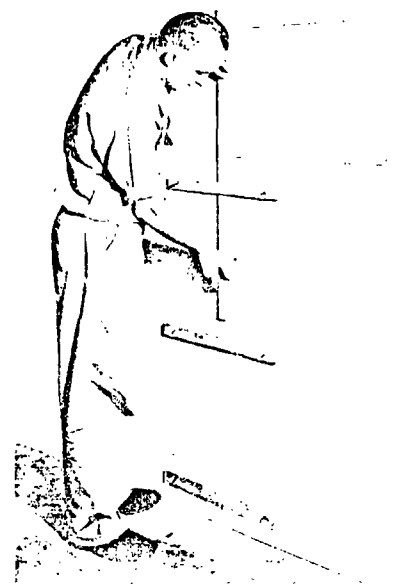

FIG. 15
14. Applying Gypsum Wallboard Continued—The adjacent panel is put into place, loosely butted to the preceding one and nailed to the studs bringing the face board into contact with the cement. To assure alignment of the adjoining ends of the wallboard, 6" wide strips of wallboard are used in lieu of the oak flooring strips shown in Figure 15. After 24 hours the strips are removed and the joint is back blocked ready for taping. Joints treated in this manner will require the usual finishing technique of crowning necessary for end joints.